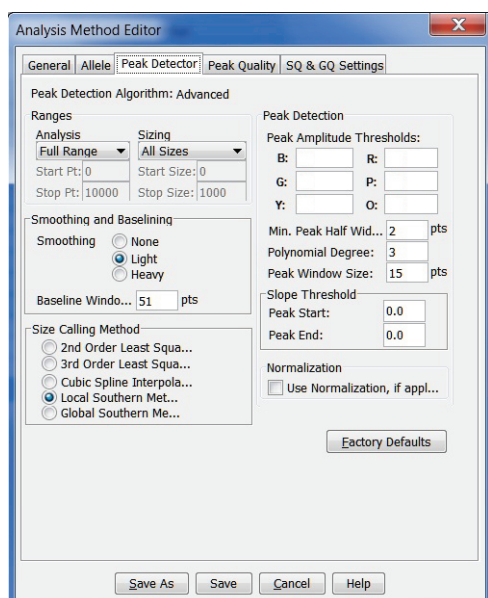

Figure 27. The GeneMapper® ID-X 'Peak Detector' tab.
9. Select the 'Peak Detector' tab (Figure 27). You will need to optimize these settings. In-house validation should be performed.
9. Select the Peak Detector tab (Figure 27). You will need to optimize these settings. In-house validation should be performed.